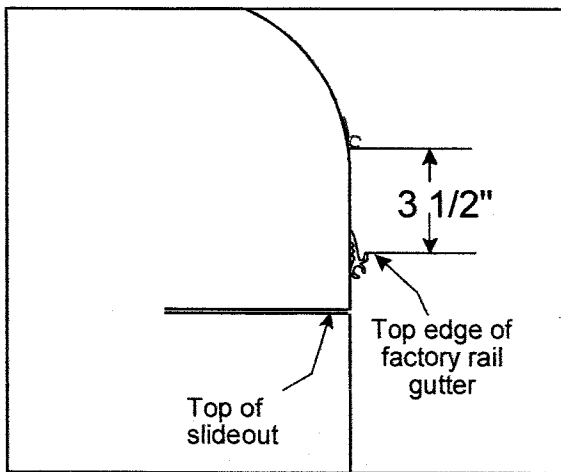

Figure 1
1. Start the installation with the Slideout room retracted. Mark the awning rail location by measuring 3 1/2" above the top edge of the gutter on the factory rail to establish the bottom of the awning rail. The Awning Rail may be mounted with flange up or down to avoid hitting the center of the roof extrusion, see Fig. 1.
2. Slip the awning rail from the awning and attach above the Slideout as shown in Fig.1&2, center the rail above the Slideout. Use 3/4" (short) split side rivets to mount the front, rear and center of the rail (use 13/64" or # 8 drill bit) For the balance of the rail, drill 11/64 or #20 holes approximately every 6" and secure rail with 5/32" self-sealing blind rivets. Rivets should be placed through ribs where ever possible. Use silicone sealant to fill drilled holes.